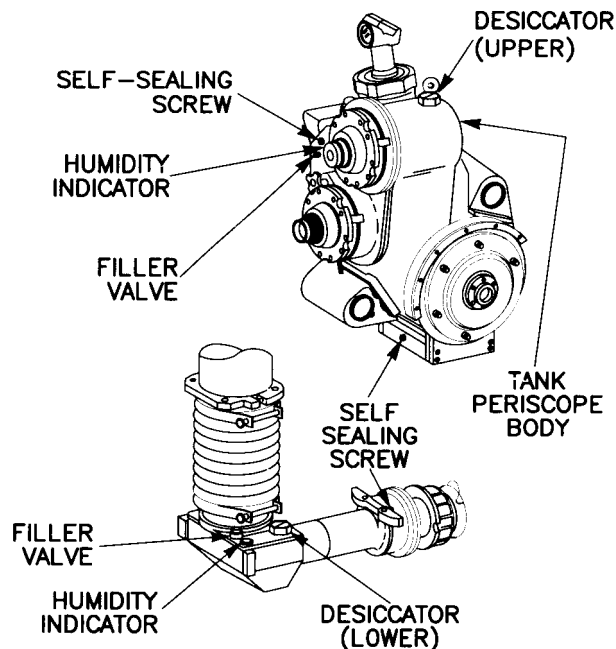

Figure 3-35 M901/M981 Tank Periscope
- (1) Perform purging and charging procedure para 2-5.b.
- (2) Purge instrument at 5 psig for 5 minutes.
- (3) Charge instrument at 1 psig for 10 seconds.
- (4) Leak test for minimum of 5 minutes,
q. Periscope, M901 (fig 3-35).
r. Periscope, M981 Tank (fig. 3-35). Refer to para 3-10.q. for procedures.